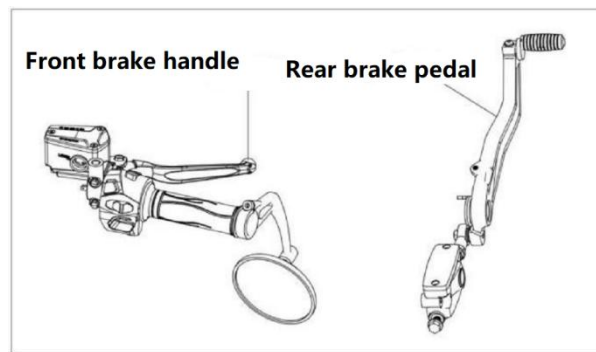

Fig16 Brake position diagram
5.4.2 Climbing or turning driving (Fig16)